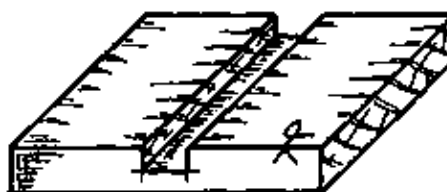

Fig. 5
– Chisel out the waste from the trench (Fig. 5).